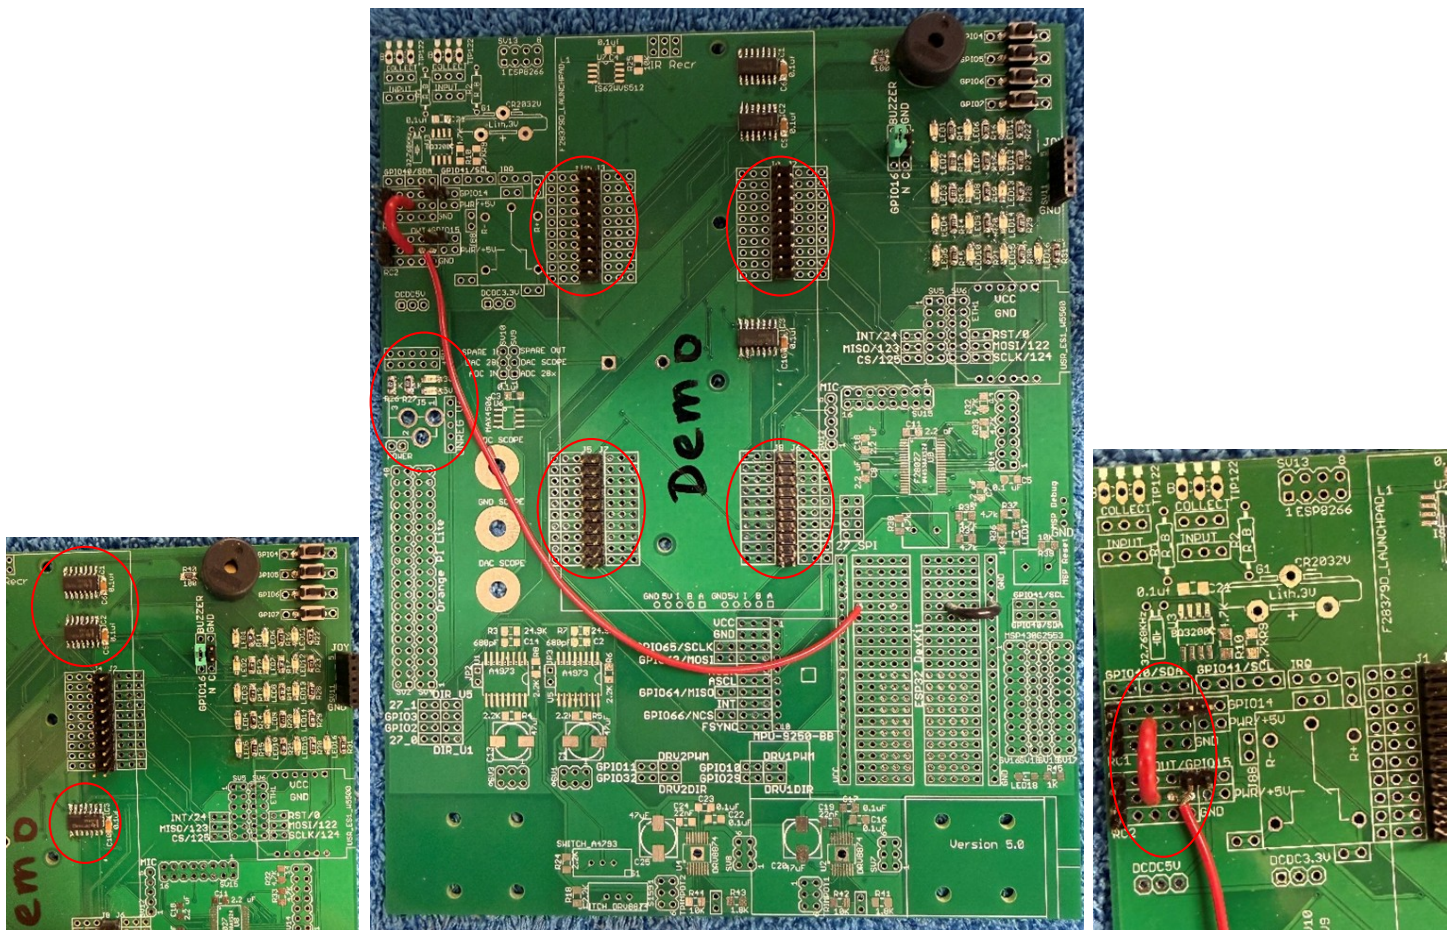

Figure 1: Demo board soldering options
8. See the demo board for the placement of a long wire and two short wires. They are shown in the picture but are clearer on the demo board. This is illustrated in Figure 1.